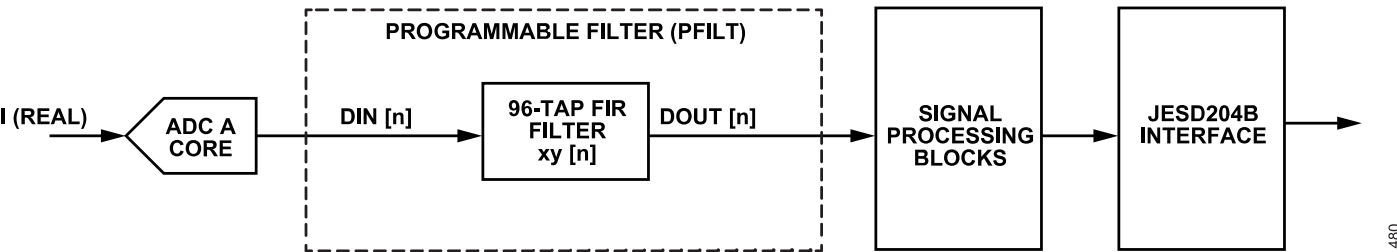

Figure 79. Real 96-Tap Filter Configuration
- ▶ Real 96-tap filter (see Figure 79)